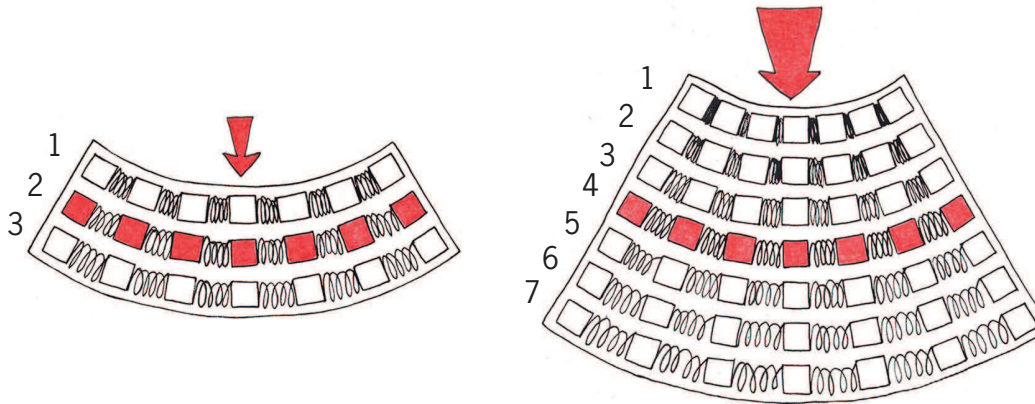

Figure 29
6. Look at the thick beam on Figure 29. There are seven rows or layers of blocks connected with springs. The layers are numbered.